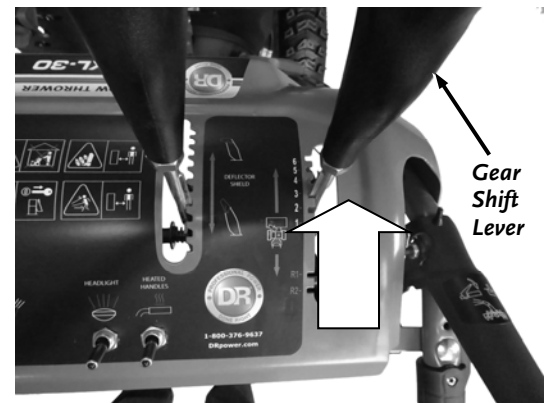

Figure 67
2. Shift to 6th gear (**Figure 67**).